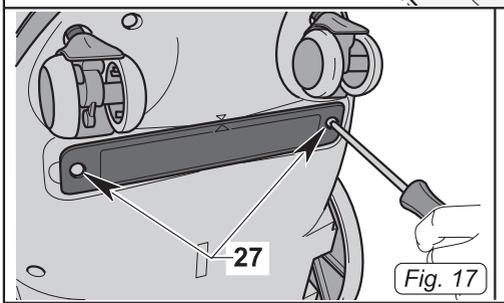
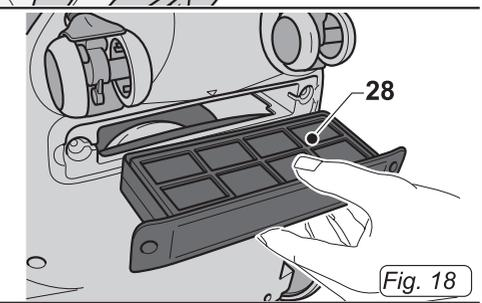

Fig. 17
Fig. 18
- Turn the dry vacuum cleaner upside down, then unscrew the screws (27 Fig. 17) and remove the filter (28 Fig. 18).